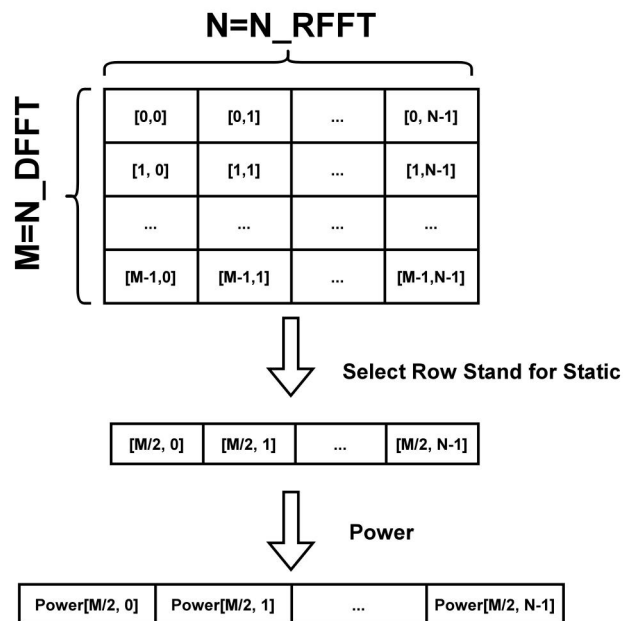

Figure 2-31 Single-Frame Calculation
- (2) Single Frame: Calculates the power of all range bins at zero velocity and plots the result. The calculation flow is shown in Figure 2-31.